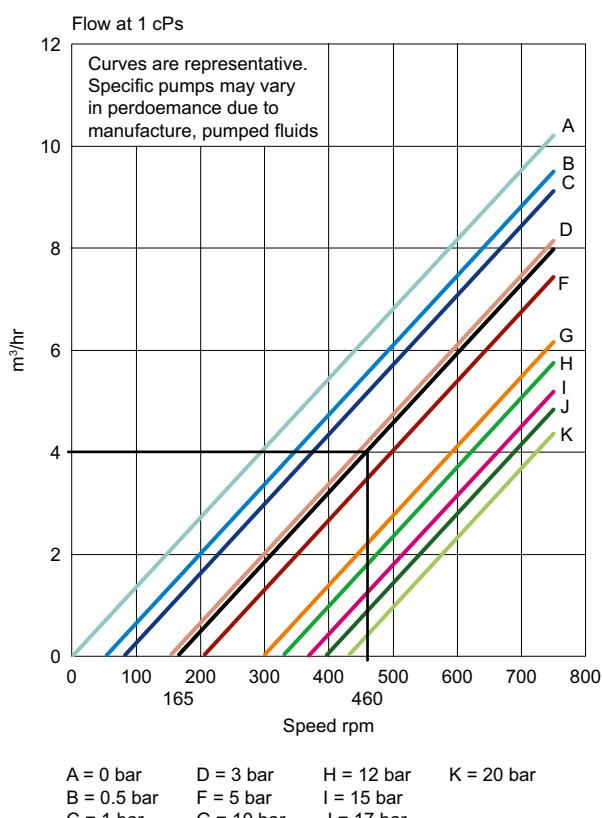

Fig. 7.6.3e
- Using the Flow at 1 cPs curve (Fig. 7.6.3e) starting at the viscosity corrected DHS speed value of 165 rpm, draw a line parallel to the pressure lines